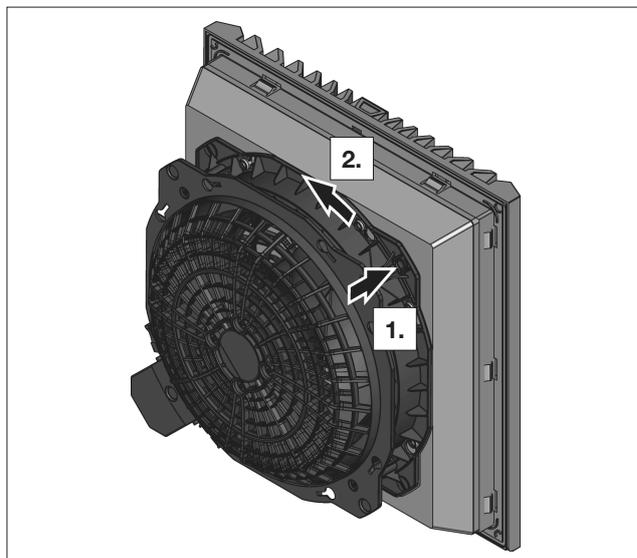

Fig. 15: Release the bayonet connection
- Press the release button of the bayonet connection at the rear of the fan (see fig. 15). This is located on the opposite corner from the connection terminal.